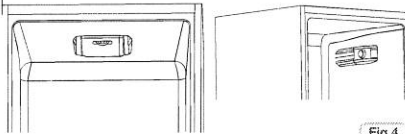

Fig.4
- The thermostat unit for control of the appliance is located inside of the refrigerator compartment (Fig. 4).